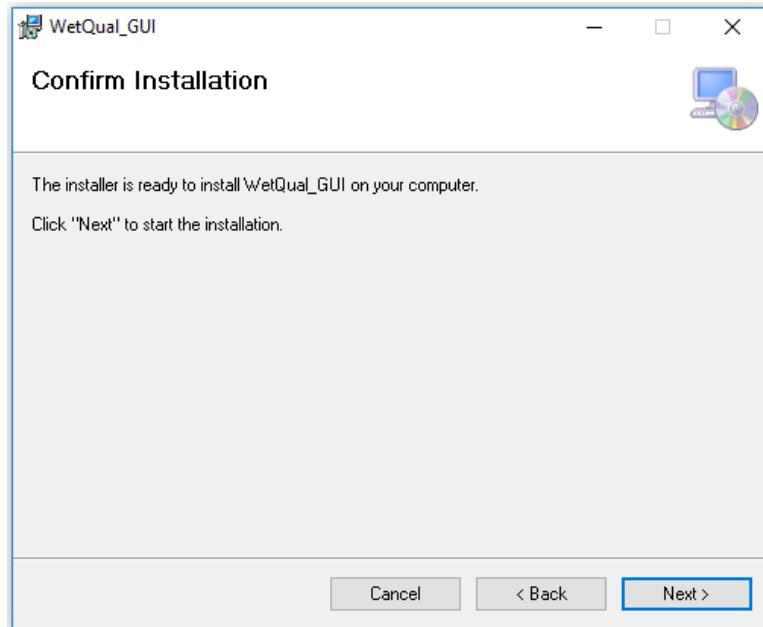

Figure 2.10
4. Click “**Next**” and the user will be asked to confirm installation as appears in the next dialog (Figure 2.10).